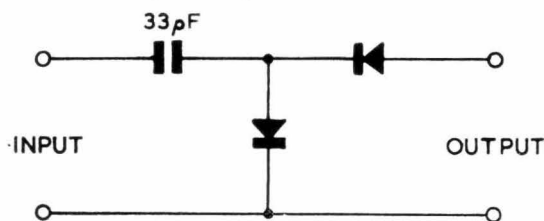

FIG. 4: Peak-to-Peak Detector.
- (1) Inject 5.5 Mc/s. at approximately 100 mV between the junction L31 and L32 and earth (disconnecting the grid peaking choke L31).
- (2) Connect the input of the peak-to-peak detector illustrated (Fig. 4) to CRT cathode, pin 7. Connect the output of the peak-to-peak detector to a 20,000 ohm/volt meter on the 50 micro-amp range.
- (3) Adjust primary core of IFT4 (nearest chassis) to give zero reading on meter. If IFT4 is replaced, it is necessary to adjust both cores to give a zero reading at 5.5 Mc/s.
- (4) Withdraw both cores from former. Screw in primary core (nearest chassis) to give a minimum reading.
- (5) Screw in secondary core until meter reading rises slightly and then adjust primary core until a new minimum is obtained.
- (6) Repeat adjustment of primary and secondary cores until meter reads zero.